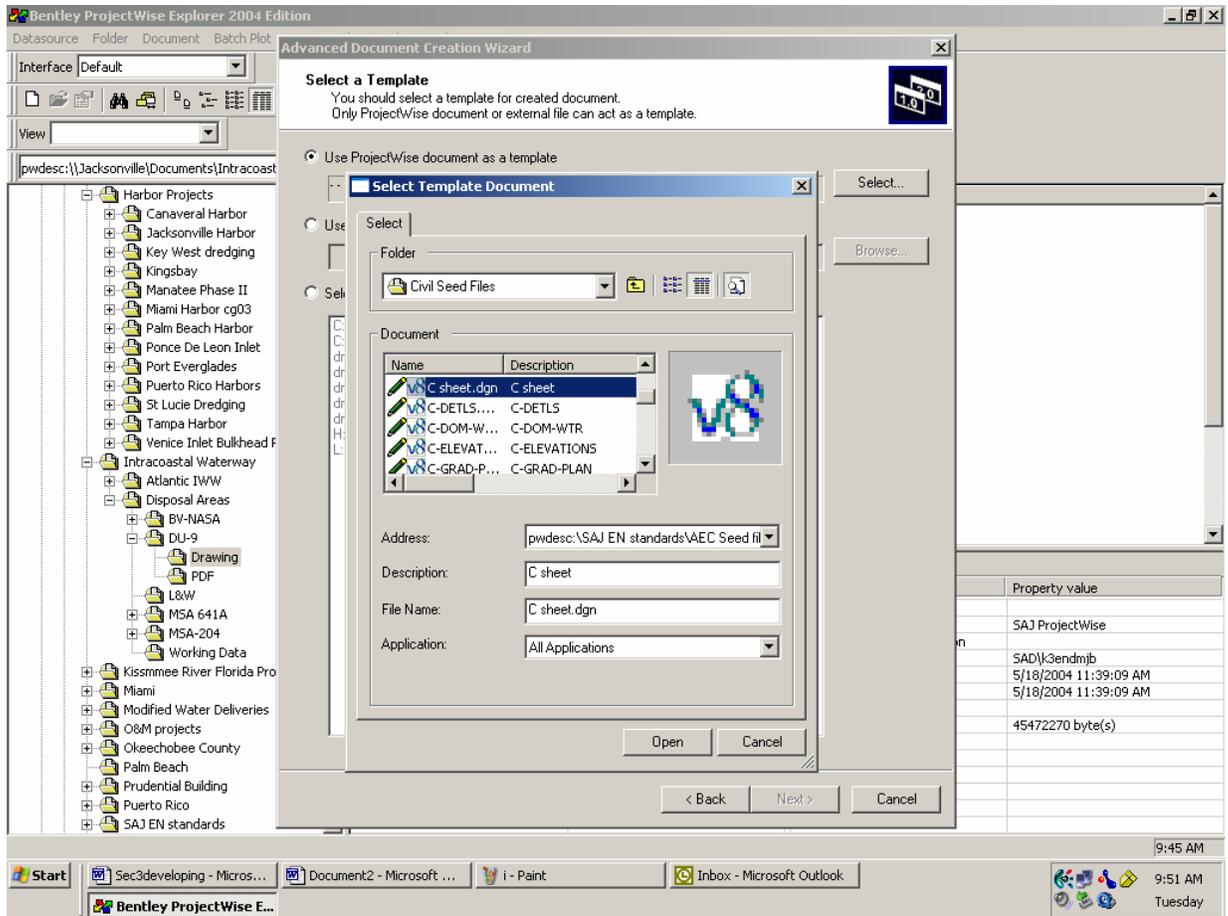

Figure 4-26
4.5.4.2 Creating New Sheet File Document. In order to create a new sheet file, first the previous procedures are followed through the initiation to develop a new document. Then click the model seed file Civil Sheet in the document area as shown in figure 4-26.